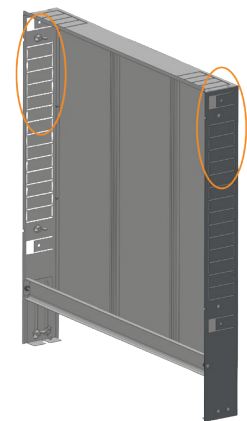

Figure 2: Remove knockouts
1. Remove knockouts (if necessary) for supply and return line access (see **Figure 2**).